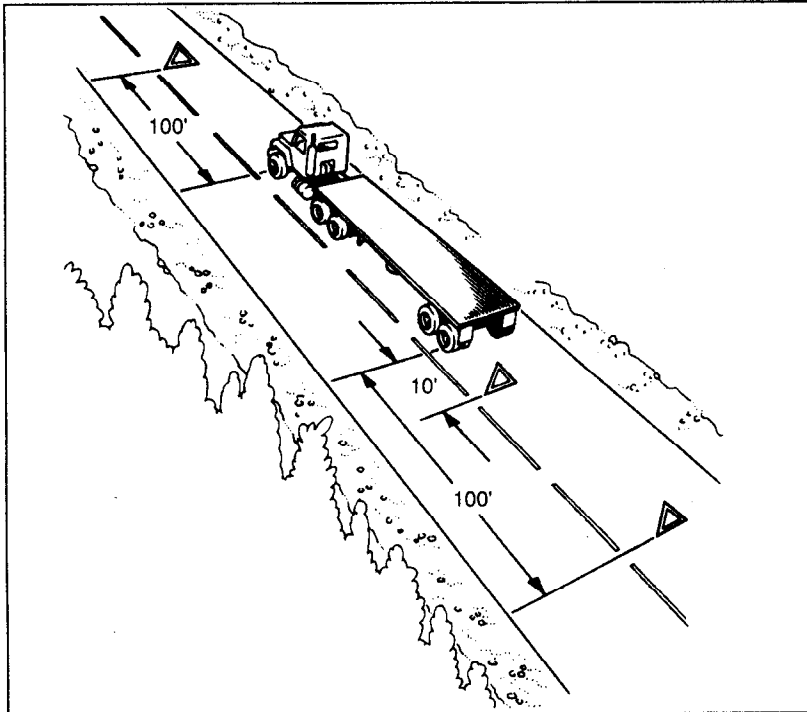

Figure 2-8
- On the traffic side of the vehicle, within ten feet of the front or rear corners -- to mark the location of the vehicle. (See Figure 2-8.)
- About 100 feet behind and ahead of the vehicle, on the shoulder or in the lane you are stopped in. (See Figure 2-8.)